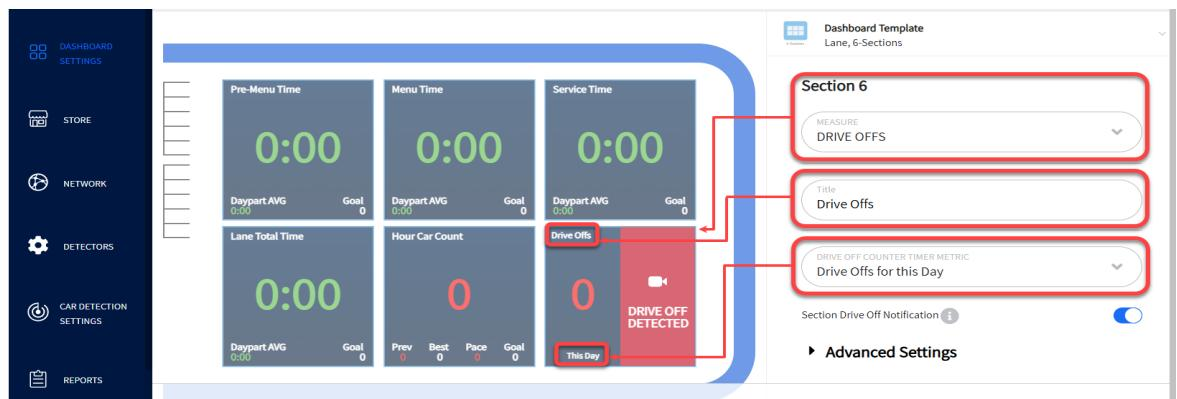
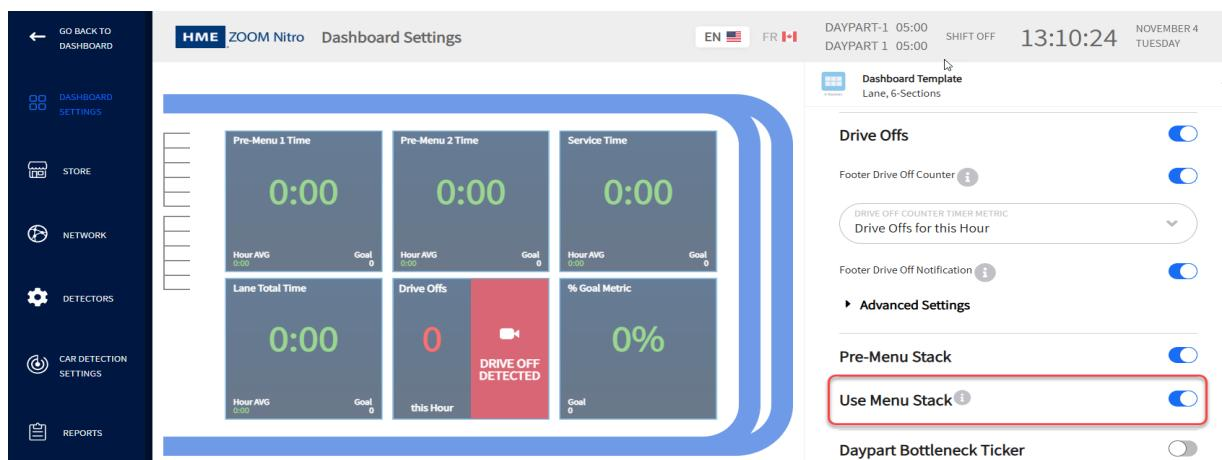
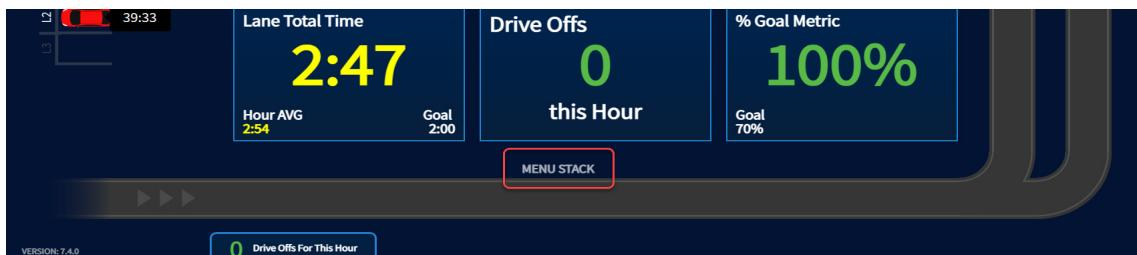

Fig. 3.9
Fig. 3.13
Fig. 3.14
The above information can also be displayed in a Data Section. Click on a Data Section (Section 6 is the example used in Fig. 3.9). From the drop-down list of the **MEASURE** field, select DRIVE OFFS. Label this Data Section in the Title field ("Drive Offs" is used in this example), and then select the time period from the DRIVE OFF COUNTER TIMER METRIC field ("This Day" is used in this example). See Fig. 3.9.
When Use Menu Stack is enabled (Fig. 3.13), it combines Pre-Menu Stack and Pre-Menu into a single label called **Menu Stack** (see Fig. 3.14). This toggle is tied to the Pre-Menu Stack toggle above it, so if you disable Pre-Menu Stack, the Menu Stack (if enabled) is also disabled, and if you enable Use Menu Stack, it will also enable the Pre-Menu Stack (if disabled).
DAYPART/SHIFT OPTION Show DP with Time	DAYPART/SHIFT OPTION: Different combinations of Daypart (DP), Shift, and Time can be selected here to be displayed at the top of your Dashboard screen (see Fig. 3.13).
TIME	MEASURE - drop-down list: Time: This is the elapsed time for an event happening, such as a vehicle being detected at a detection point or the Lane Total for a Lane. % Goal: Shows the percentage of vehicles over/under the goal at the selected Event. Car Count: The total number of vehicles that have gone through the drive-thru lane and departed from the last detection point. If your store uses a Dual Lane layout, CAR COUNT will also offer you LANE SELECTION options. You can choose a car count for either lane or a combined count for both lanes. Cars in Lane: This is the total number of vehicles in the lane that have arrived at or passed the first detection point but have not yet departed the last detection point of the lane. If your store uses a Dual Lane layout, CARS IN LANE will also offer you LANE SELECTION options. You can choose cars in lane for either lane or a combined count for both lanes. Disastrous Orders: This is the number of vehicles or orders that have exceeded the user-determined Disastrous Orders Goal. For example, if speed goal D has the longest time value of goals A, B, C, and D (where A = 30, B = 60, C = 90, D = 120), then any vehicle or order exceeding 120 is considered a Disastrous Order. Drive Offs (if applicable): These are vehicles in the Pre-Menu Stack/Pre-Menu zone which drive off before ordering. See details on page 14, Fig. 3.9 and 3.10. This option is only available when using Nitro Vision AI. Average Time: The sum of the amount of time, for each vehicle departure within the user-selected periods, divided by the number of vehicle departures. Drive Thru-Put: Calculates the number of cars each hour the drive-thru can serve based on the slowest detection point average and the time remaining in the hour. Period Bottleneck: This shows the bottleneck event for the set time period (Half Hour, Hour, Daypart, Day). Current Bottleneck: This tells you what event/detection point is causing the current bottleneck. Based on the set number of vehicles in the Rolling Avg. settings. Leaderboard Ranking: This shows your store's ranking based on the number of stores it is monitored against. For example, a "1 of 5" ranking means you are currently in first place out of five stores monitored. Leaderboard List: This shows a list of all the stores monitored beginning with the top ranked store. In the Leaderboard Ranking example (1 of 5), your store will be the first line on the displayed list (see Fig. 3.21). Lead Car Order Summary: This gives you an overview of the order for the lead vehicle in your drive-thru lane. (Only visible when POS is enabled.) Menu Stack Car Count: This is the total number of vehicles in the combined Pre-Menu and Pre-Menu stack (Menu Stack must be enabled on the dashboard to receive an accurate count, see Fig. 3.13). TIME % GOAL CAR COUNT CARS IN LANE DISASTROUS ORDERS AVERAGE TIME Goal A